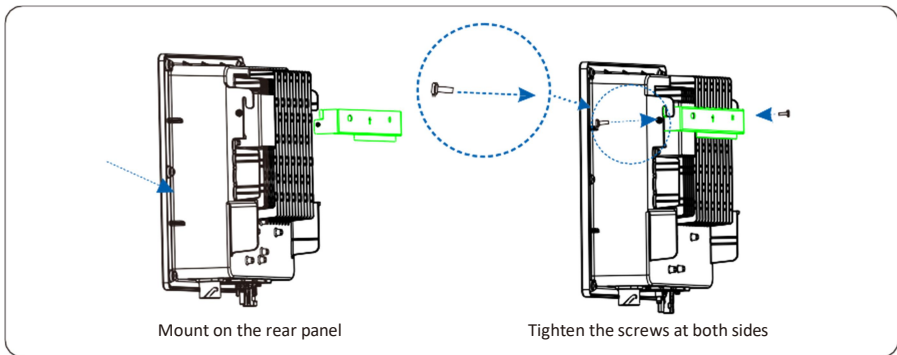

Figure 4.14 Securing the inverter
Step 2 Mount the inverter on the rear panel and keep them aligned with each other, as shown in Figure 4.14.
Step 3 Tighten the two hexagon screws at the both sides of the inverter to a torque of 1.2N.m and 3N·m respectively. Screw specs for 2K-3K and 5K-6K are M4 and M6 respectively, as shown in Figure 4.14.